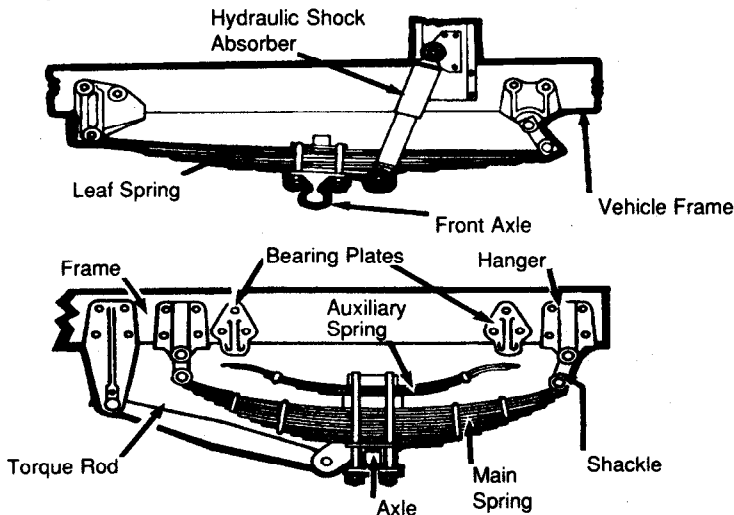

Figure 2-2
- Spring hangers (Figure 2-2) that allow movement of axle from proper position
- Torque rod or arm, U-bolts, spring hangers or other axle positioning parts that are cracked, damaged, or missing (Figure 2-2 and 2-4).